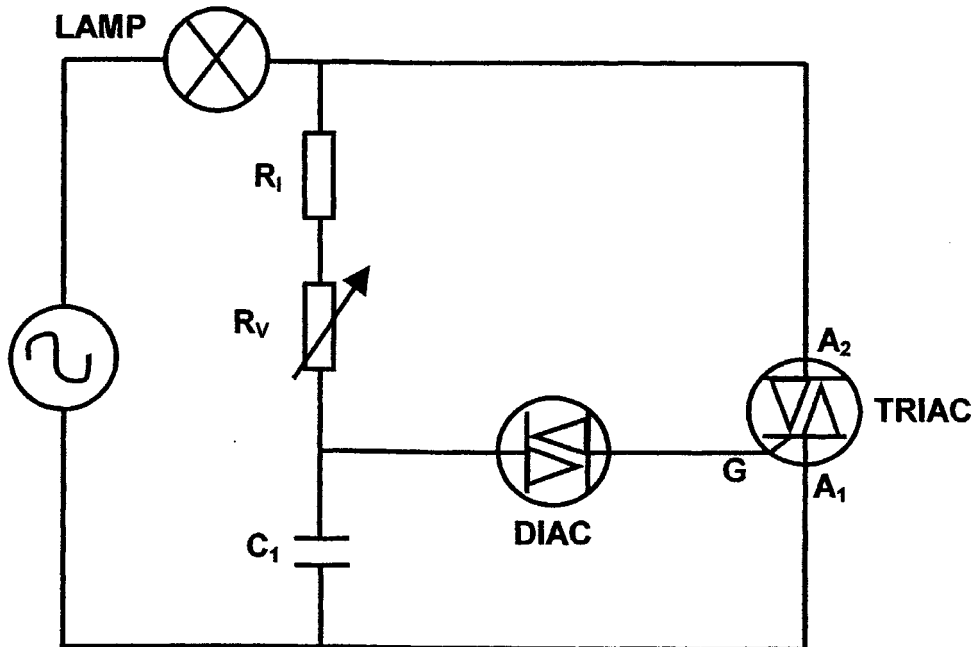

FIGURE 6.1 – TRIAC lamp dimmer circuit
- 6.1 FIGURE 6.1 shows a circuit of a TRIAC lamp dimmer. Describe the basic operation of the circuit.